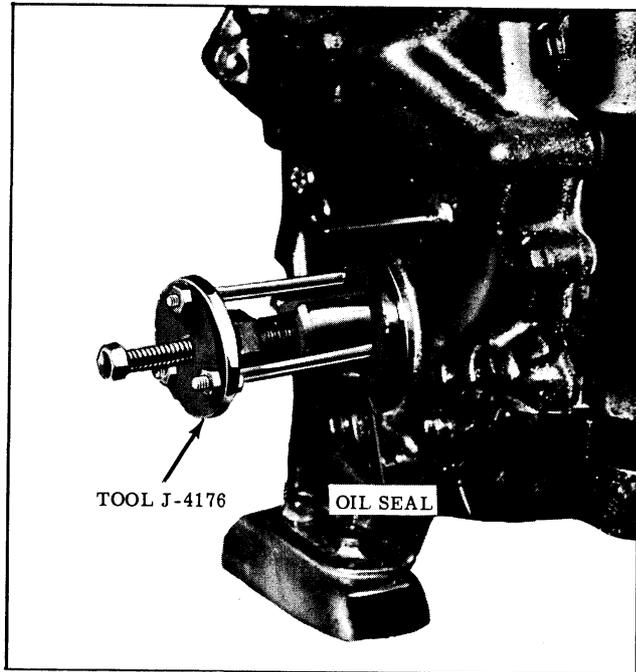

Fig. 8-37 Removing Front Oil Seal
2. Place fingers of Tool J-4176 over end of crankshaft turning the fingers so that the hooks will pass through clearance between the crankshaft end and the inside diameter of the oil seal. A few light taps on the tool center screw will force the fingers in behind the rubber ring of the oil seal. (See Fig. 8-37)